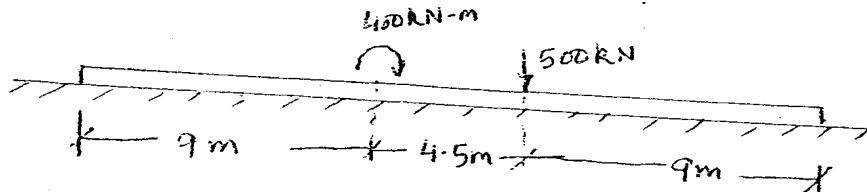

Fig 9
Q.9 A 22.5 meters long beam as shown in Fig.9 is supported on continuous elastic support whose modulus of foundation sub grade is $1 \times 10^5 \text{ KN/m}^2$. The beam is 1m X 1m in cross. Cross section and its young's modulus of elasticity is $2 \times 10^7 \text{ KN/m}^2$. It is loaded as shown in Figure. Determine B.M. at every 4.5 m sections and plot B.M. diagram on tension side. (12.5)